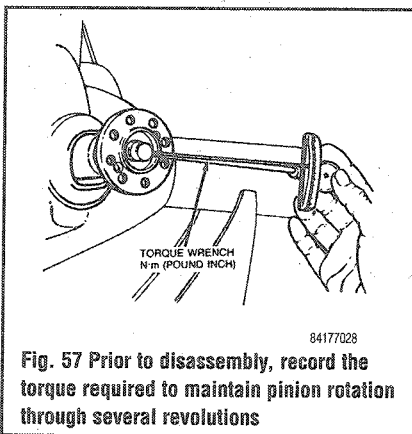

Fig. 57 Prior to disassembly, record the torque required to maintain pinion rotation through several revolutions
▶ See Figures 57, 58, 59, 60 and 61